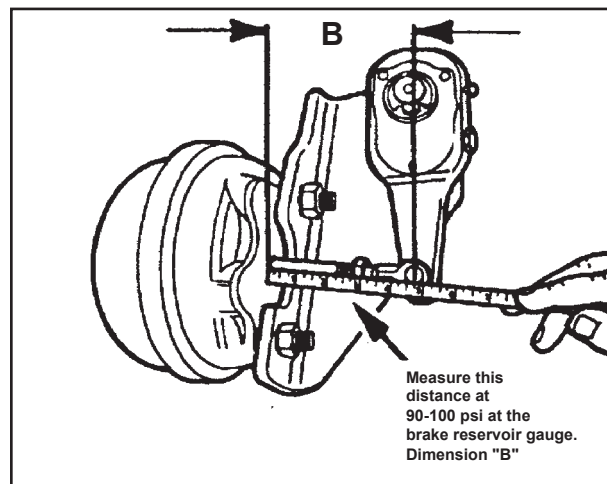

Fig. 4
3. Measure from the brake chamber face to the center of the clevis pin (see **Fig. 4**).